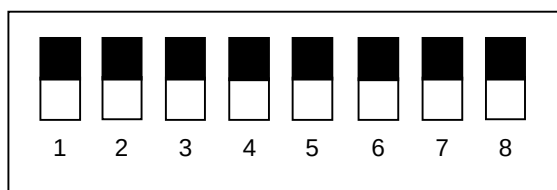

Figure 6.5.2 DIP switches (Being set for Standard setting)
- (2) Perform as the procedure shown below.
(3) Set the DIP switch No.4 as shown in Figure 6.5.2.